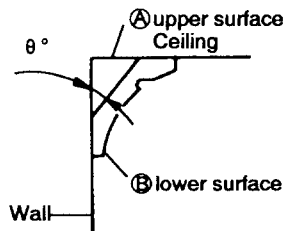
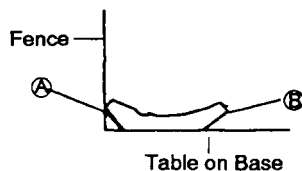
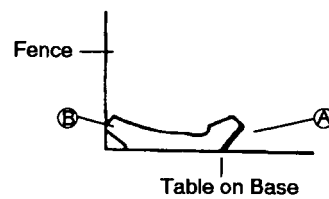

Fig. 28
Fig. 31
Fig. 33
Fig. 28 shows two common crown molding types having angles of (θ) 38° and 45° .
- ① Turn the turntable to the right and set the Miter Angle as follows:
- ② Tilt the head to the left and set the Bevel Angle as follows:
- ③ Position the crown molding so that the upper surface (A in Fig. 28) contacts the fence as indicated in Fig. 31.
- ① Turn the turntable to the left and set the Miter Angle as follows:
- ② Tilt the Head to the left and set the Bevel Angle as follows:
- ③ Position the crown molding so that the lower surface (Ⓑ in Fig. 28) contacts the fence as in Fig. 33.
- ② Tilt the head to the right and set the Bevel Angle as follows:
- ③ Position the crown molding so that the upper surface (Ⓐ in Fig. 28) contacts the fence as indicated Fig. 35.
- ② Tilt the Head to the right and set the Bevel Angle as follows:
- ③ Position the crown molding so that the lower surface (Ⓐ in Fig. 28) contacts the fence as in Fig. 37.